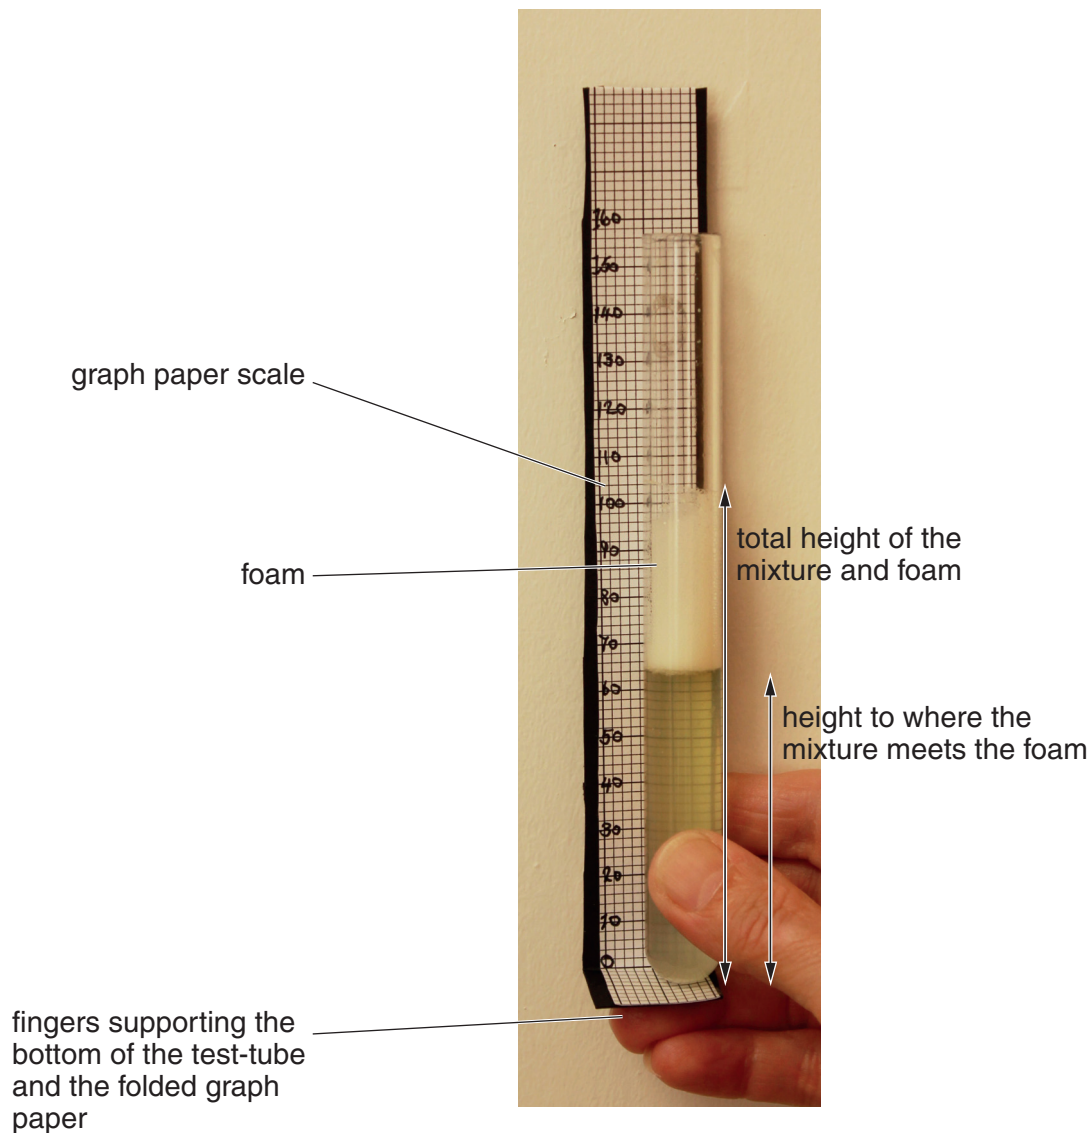

Fig. 1.2
You are required to measure the release of oxygen by measuring the total height of the mixture and the foam **and** the height to where the mixture meets the foam, as shown in Fig. 1.2.
You are provided with a graph paper scale on a piece of card. Fig. 1.2 shows how to use the graph paper scale to measure the total height of the mixture and foam **and** the height to where the mixture meets the foam.
2. Fold the graph paper scale along one of the thicker lines and label this line 0 as shown in Fig. 1.2.
You may find it useful to label each 10mm as shown on Fig. 1.2.
- Hold the test-tube as shown in Fig. 1.2.